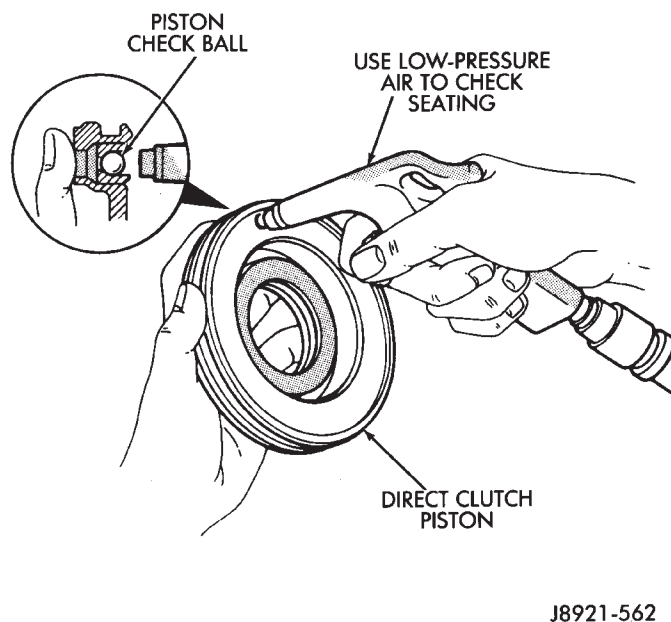

Fig. 10 Testing Piston Check Ball Seating
(15) Check clutch piston check ball (Fig. 10). Shake piston to see if ball moves freely. Then check ball seating by applying low pressure compressed air to ball inlet as shown. Air should not leak past check ball.
(16) Measure inside diameter of clutch drum bushing. Inside diameter should be no more than 53.97